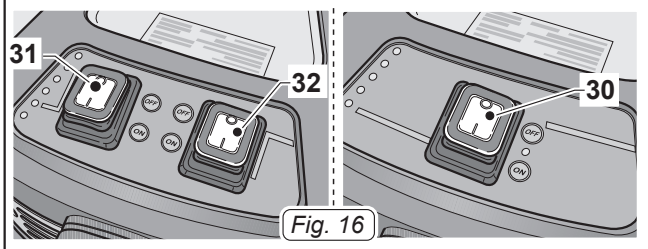

Fig. 16
- Push the switch (30 Fig.16) on "I" to start the suction motor; the switch lights up.
- Depending on the power required it is possible to start only one motor by pressing the switch (31 Fig.16) on "I" or both switches (31 e 32 Fig.16) if a greater suction force is required.
- Push the switches (30, 31, 32 Fig.16) to the "0" position to stop the device; the lights, if any on the switches, will go off.